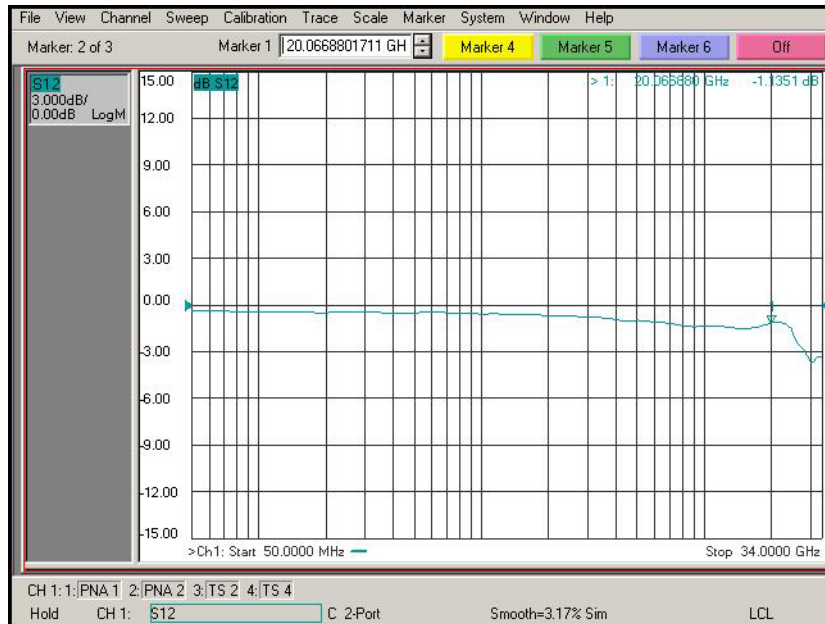

Figure 105 De-Embedded V_{in} Trace
- 10 Trigger the VNA to perform a single sweep. Press “Trigger” under Channel Setup, and then the green soft-key for “Single”. Display should look like **Figure 105** on page 145. If it looks noticeably different, the probe tip wires may not be making contact under the pincher.